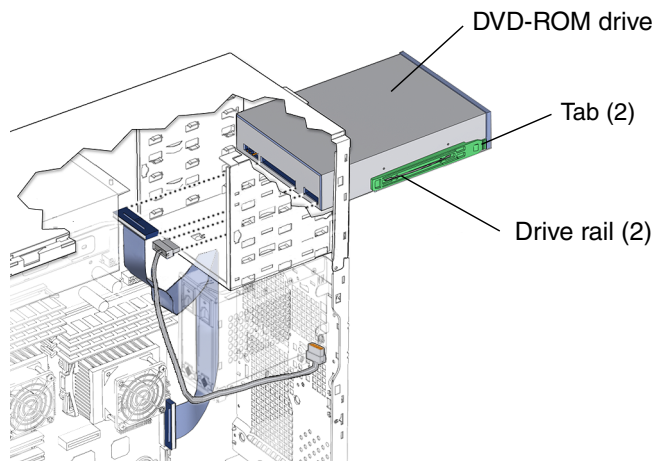

FIGURE 12-9 Removing the DVD-ROM Drive and Drive Rails
5. Remove the DVD-ROM drive (FIGURE 12-9).